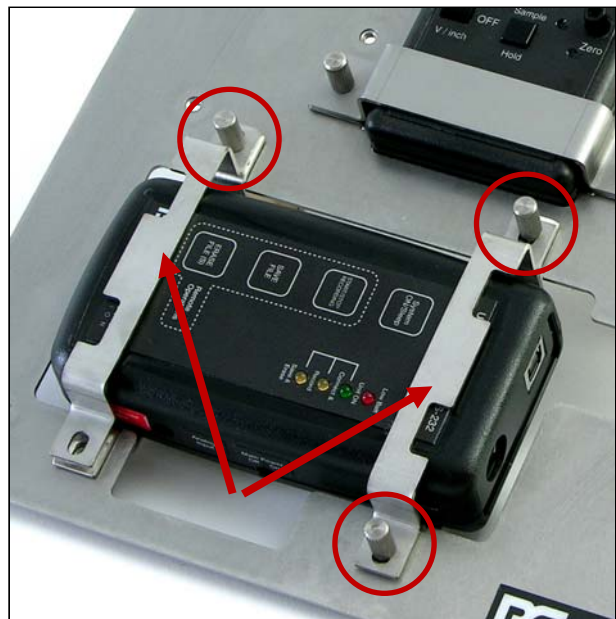

Figure 9: Secure the PGA-710 instrument with 2 upper Straps and 3 Thumb Screws
10. Place two additional Straps over the upper case of the PGA-710 instrument. Figure 9.